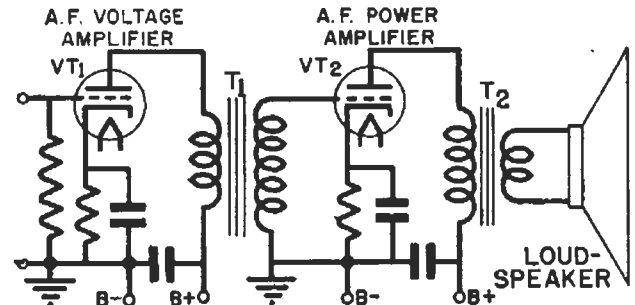

FIG. 17. Both an interstage and an impedance-matching transformer are shown in use here.
► Sometimes both interstage and impedance-matching transformers are used in the same apparatus. For example, in Fig. 17 transformer  $T_1$  steps up voltage while  $T_2$  matches the loudspeaker voice coil to the plate resistance of  $VT_2$ .